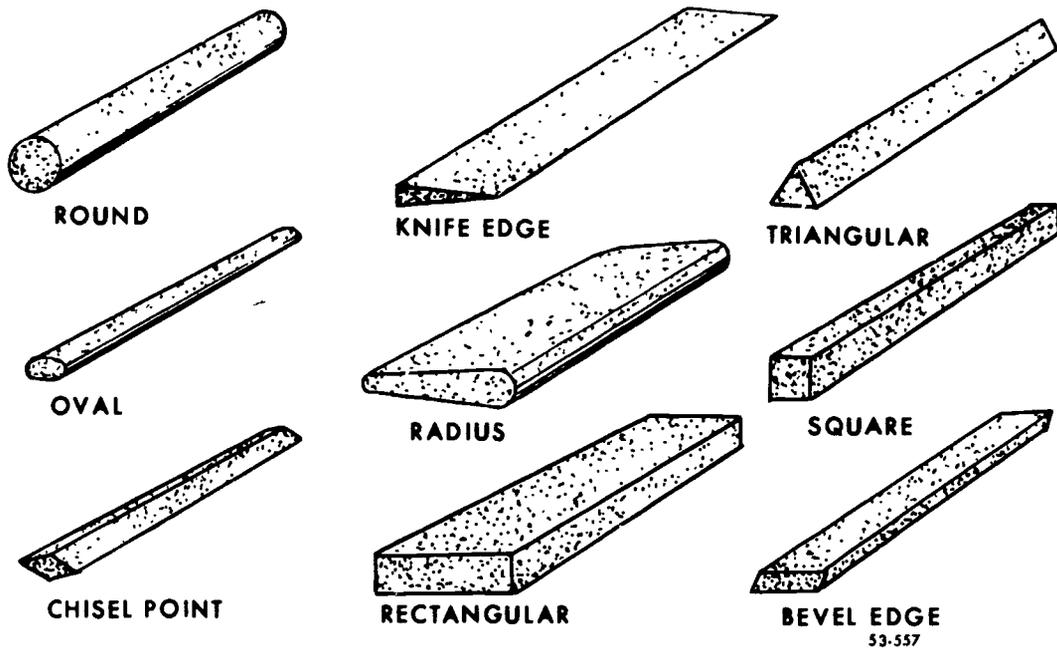

Figure 118. Abrasive stones.
14-3. **Reworking Parts.** Parts that are to be assembled must be free of burr, sharp corners, and high spots. Parts are reworked so that they can be assembled properly and so that they will operate without binding. You can remove high spots by (1) filing, (2) using abrasive cloth or stones, as shown in figure 118, (3) hand scraping, or (4) polishing and buffing. In extreme cases you may even have to set up the work in an appropriate machine and remove additional material by machining. You are already familiar with filing and the use of abrasives. Therefore, we will limit this discussion to polishing and buffing.